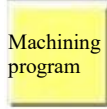

Fig. 6.14 Input NC code, and Click "Confirm"
3. Input operation instruction, and then Click  to confirm the input, as shown in Fig.6.14